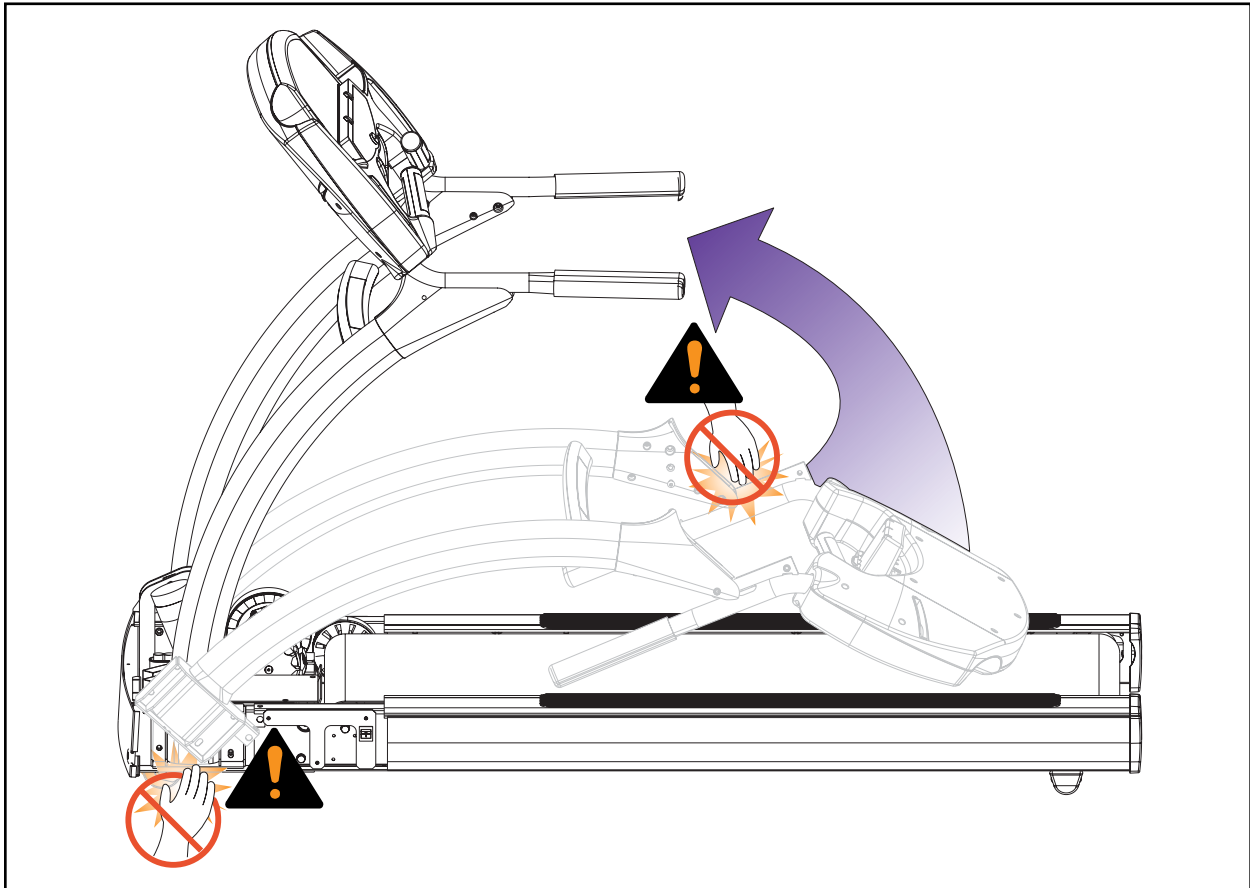

Figure 3
! CAUTION: *Do not pinch your hands or other body parts while pivoting the treadmill. See Figure 3.*
- C.** Raise the console and uprights into position (they will pivot into place). **NOTE:** Confirm that no cables are pinched while raising the unit. See Figure 3.